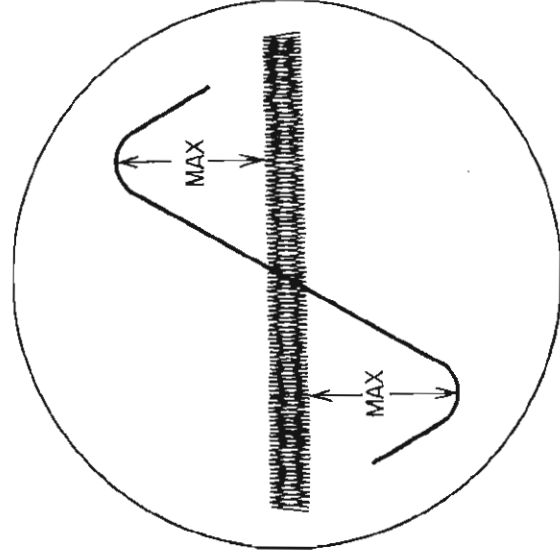

Fig. 8
- (2) Turn the core of the output transformer T_2 on the front end so that the horizontal stripes visible in the center of the waveform in Fig. 8 and maximum amplitude is located in the center of the S-shaped curve. At this time, the horizontal stripe should be symmetrical about the center line.